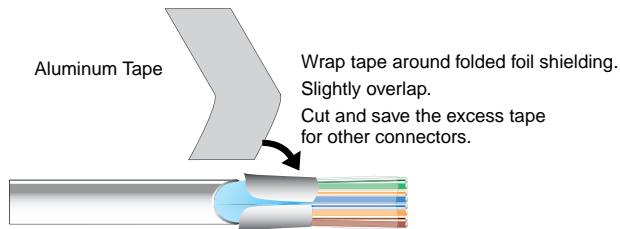

Figure 2-22 — Wrapping the shielded tape
3. Peel the backing off the self-adhesive shielded aluminum tape and wrap it around the folded-over cable shielding, slightly overlapping the beginning of the tape (figure 2-22).